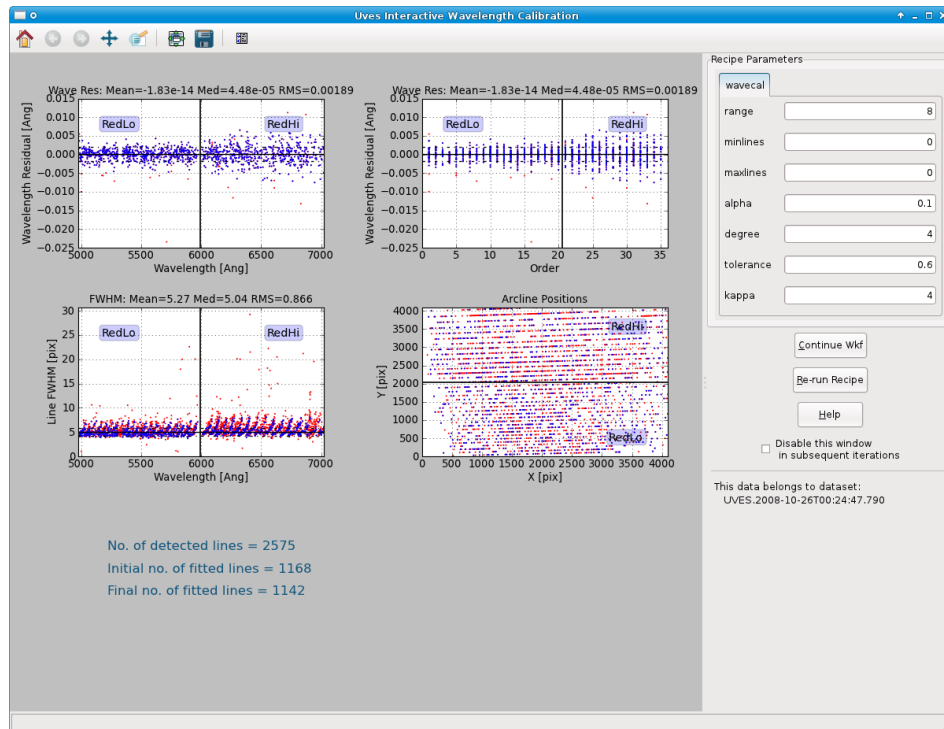

Figure 7.1: The interactive window for the Wavelength Calibration actor for the first DataSet in the data supplied with Reflex 2.2.
- Wavelength Calibration: The next interactive window that will appear (see Figure 7.1) is associated with the execution of the Wavelength Calibration actor, which executes the UVES pipeline